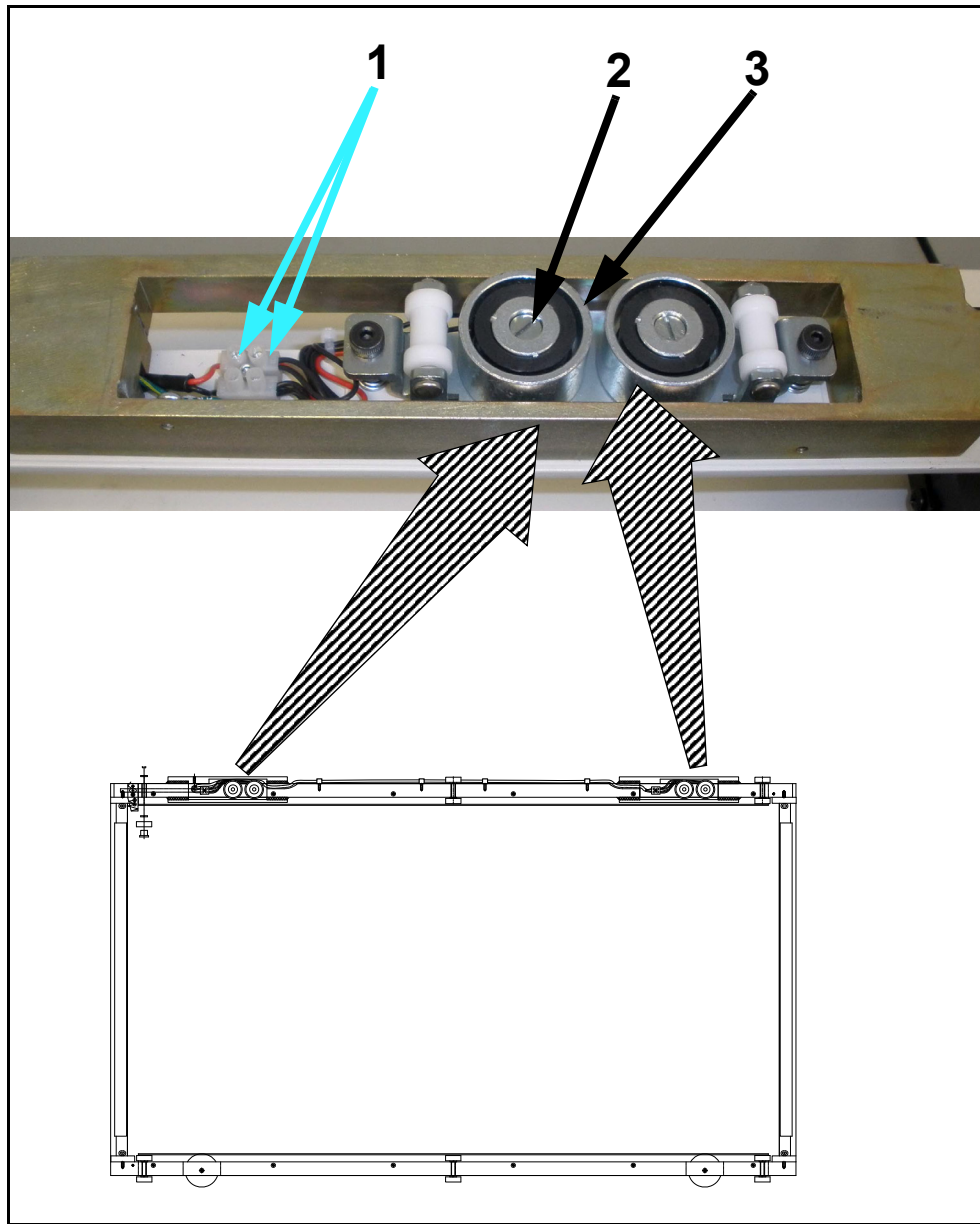

Figure 6-13. Table Locks
- 4 Loosen the terminal block screws (1 in Figure 6-13) and slide the lock wires out of the terminal block.
- 5 Unscrew the lock screw (2) and remove the lock (3).